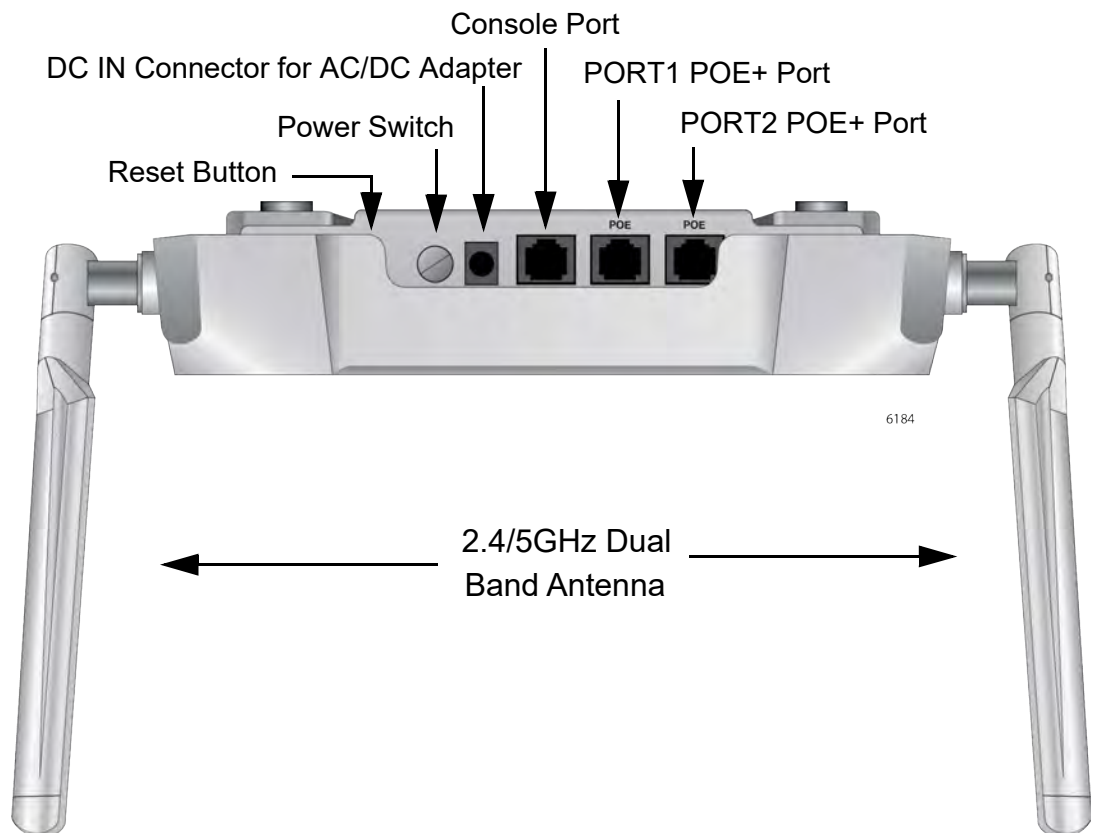

Figure 4. Back Edge View
| Figure 4: Back Edge View .....                                                     | 21 |
The back edge view is illustrated in Figure 4.
**Power Switch** The Power Switch on the back panel in Figure 4 on page 21 turns On or OFF the access point when power is supplied to the access point only from the AC adapter, not from PoE LAN ports.
The access point has a Reset button on the back edge in Figure 4 on page 21 for returning the parameter settings of the device to their default values. You might reset the access point if you want to discard its current configuration or if you forgot the manager password and so cannot manage the device.